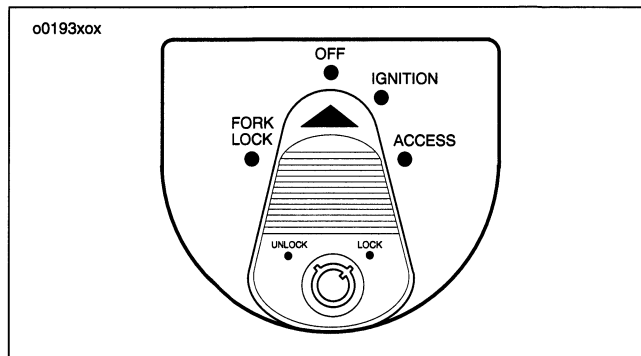

Figure 6. Ignition/Light Key Switch
See Figure 6. The ignition/light key switch controls electrical functions of the motorcycle.
2. See Figure 6. Turn *Ignition/Light Key Switch* to ON and push the START switch to operate starter motor.
2. See Figure 6. Turn the ignition key to the OFF position.